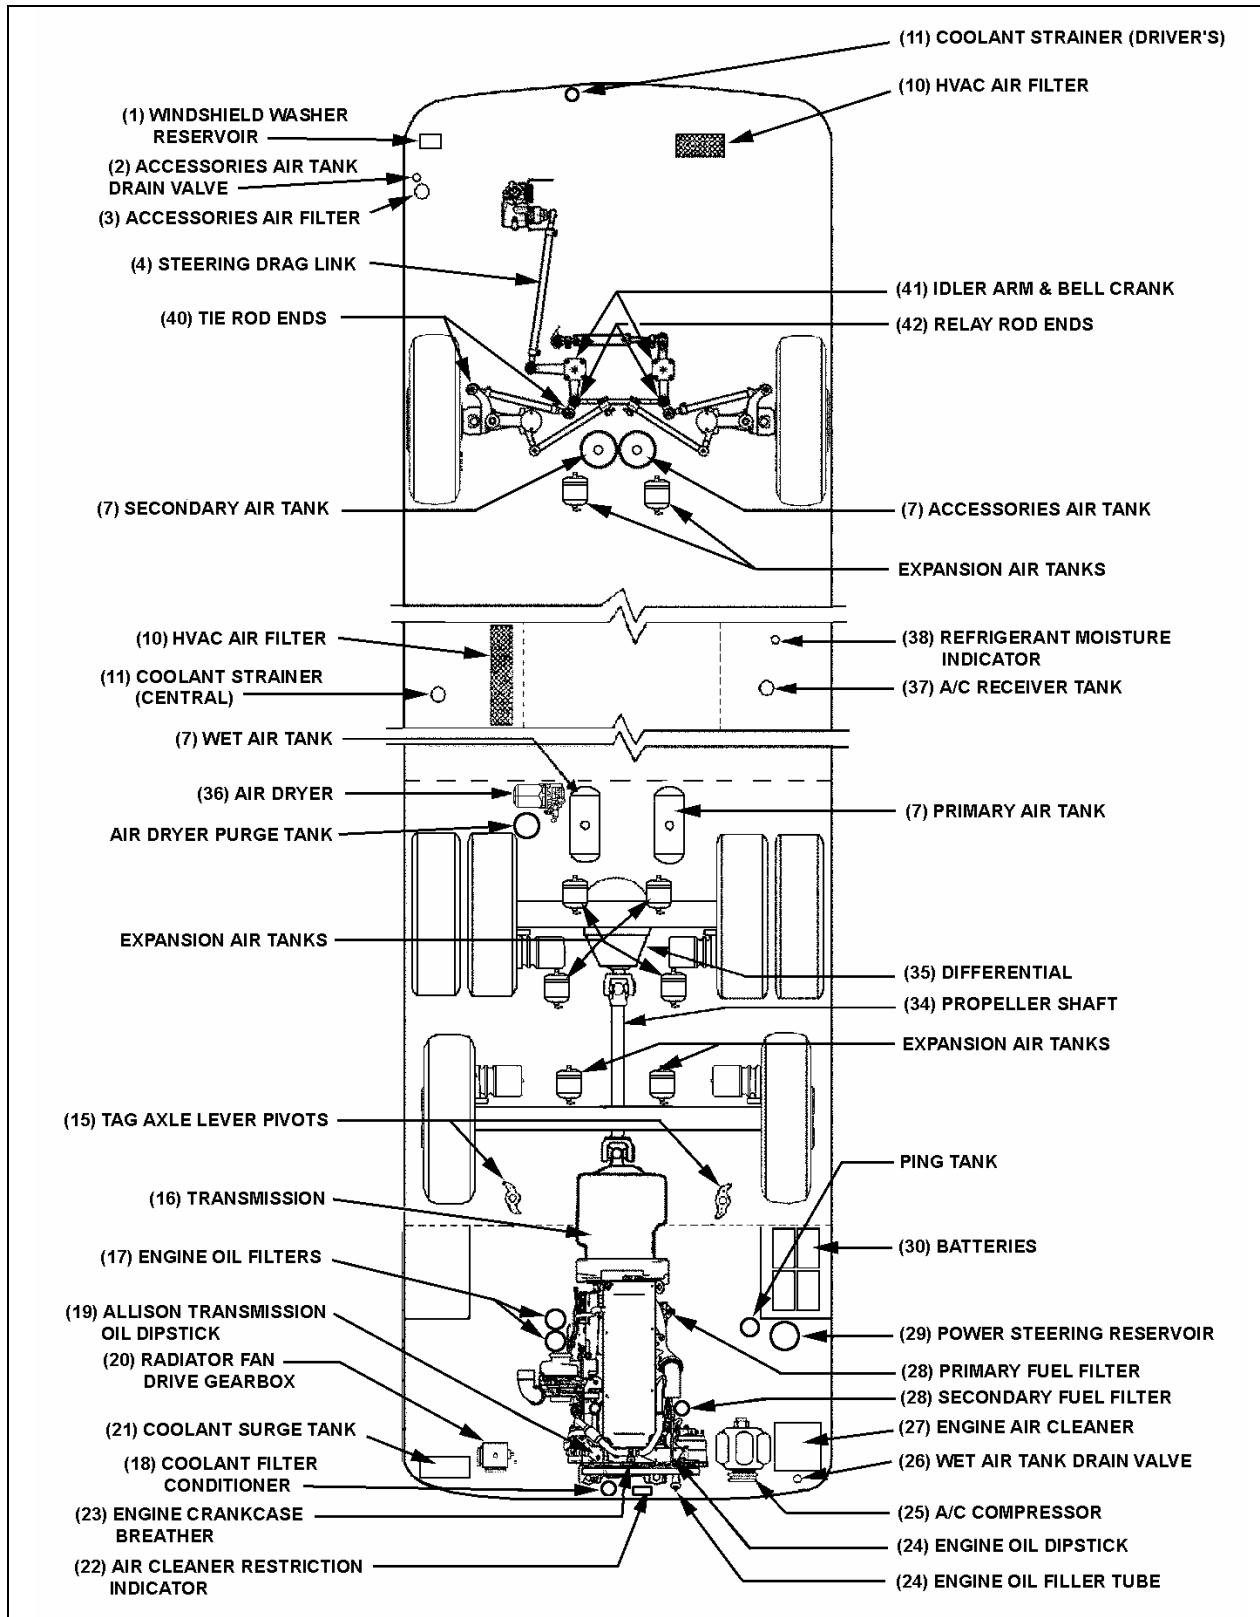

FIGURE 2: LUBRICATION AND SERVICING POINTS ON INDEPENDENT FRONT SUSPENSION VEHICLES
| FIGURE 2: LUBRICATION AND SERVICING POINTS ON INDEPENDENT FRONT SUSPENSION VEHICLES | 5 |
- Item numbers refer to figure 2.
* Item numbers refer to figure 2.